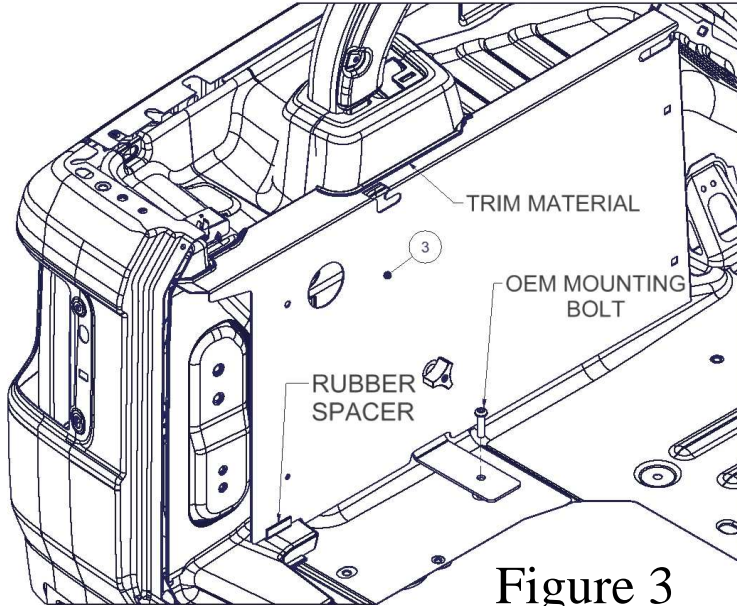
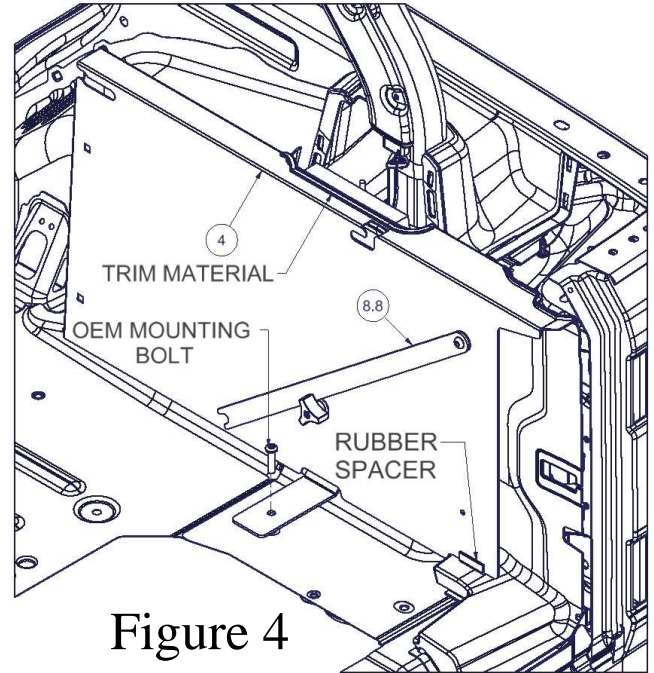

Figure 3
Figure 4
5. Install the #3 Left Panel (Drivers Side), and #4 Right Panel (Passengers Side) into the cargo area using the OEM cargo loop mounting bolts removed in the previous step as shown in Figure 3 and Figure 4. The ends of the #5 mounting brackets will be very close to the edge of the factory cubby cover panel but should not overlap. Adjust the side panels so that the Rubber Spacers rest on the plastic trim, and the upper profile seats tightly around the plastic trim, and tighten the #8.3 Knob Screws. *NOTE: Before installing panels, make sure the trim material around the upper edge is seated properly to the metal panel as it may have separated slightly during shipment.*